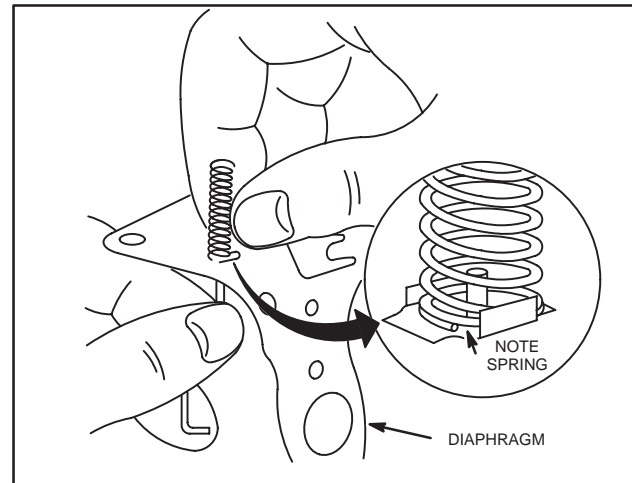

Fig. 160 – ASSEMBLE SPRING TO DIAPHRAGM
1. If a new diaphragm is being installed, assemble choke spring to diaphragm, as shown in Fig. 160. See Table No. 10 for correct spring usage. Be careful not to bend or distort spring.